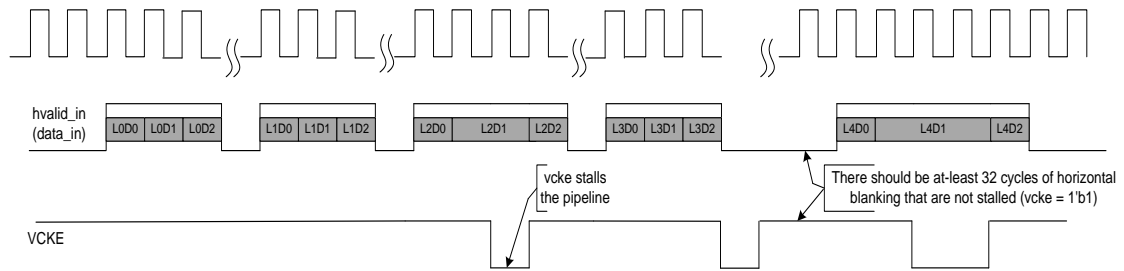

Figure 40. Interface Requirements with Stalled Pipeline Functionality
- **Stalled horizontal blanking:** At least 32 cycles (pixel clock cycles) of the horizontal blanking which is not stalled is required. See Figure 40.